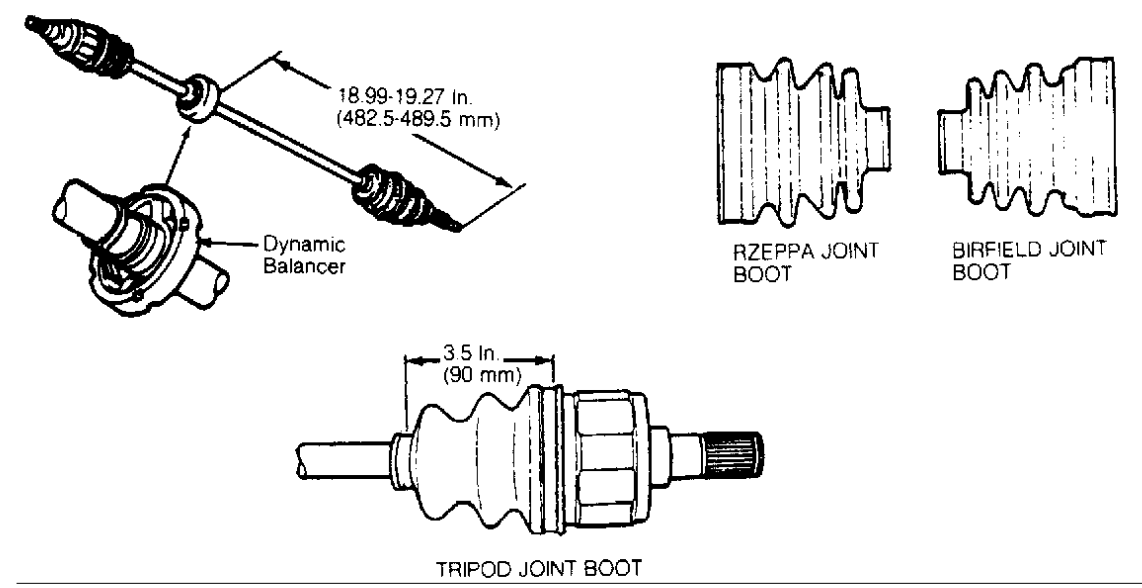

Fig. 3: Measuring & Identifying Axle Shafts & CV Boots
- 2. Install right side dynamic damper at a distance of 18.99-19.27" (482.5-489.5 mm) from outboard end of axle shaft. Installed length of CV boot should be 3.5" (90 mm). See Fig. 3 .